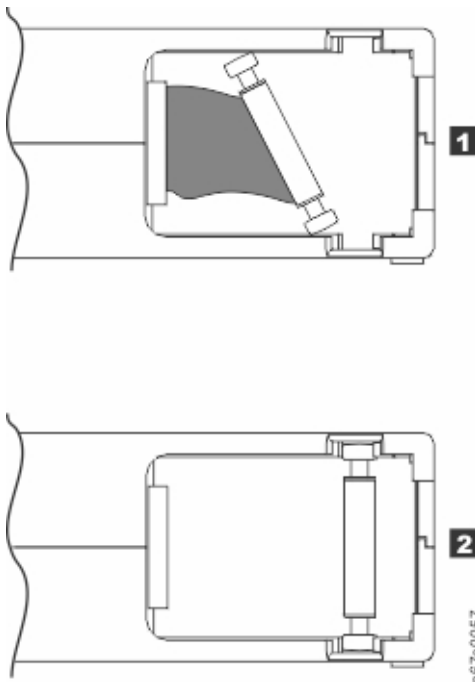

Figure 11. Leader pin in the incorrect and correct positions
- Check that the leader pin is properly seated (see **2** in Figure 11 on page 68).
- Do not drop the cartridge. If the cartridge drops, slide the cartridge door back and ensure that the leader pin is properly seated in the pin-retaining spring clips. See **2** in Figure 11 on page 68. If the leader pin becomes dislodged, go to “Repositioning or reattaching a leader pin” on page 67.
Improper placement of leader pin. See Figure 11 on page 68.
A leader pin that is improperly seated inside a cartridge interferes with the operation of the drive. Figure 11 on page 68 shows a leader pin in the incorrect **1** and correct **2** positions.